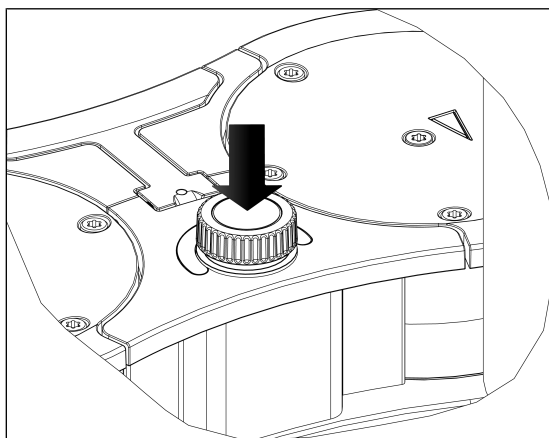

Fig. 8: Start and stop pumping operation of the vacuum system with rotary/push knob
- Start the pumping operation of the vacuum system by pressing the rotary/push button (see Fig. 8).